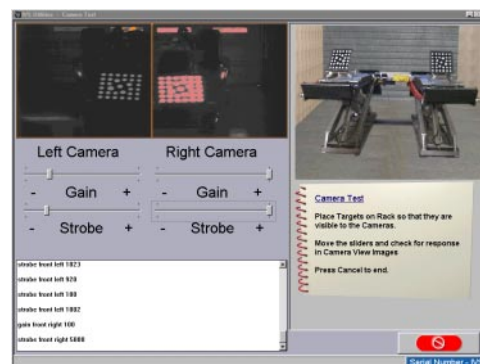

Figure 3-71
9. Slide the “GAIN” and the “STROBE” slider bars for the RH camera all the way to the right. The image of the target should again respond by “BLOOMING”. (Figure 3-71)